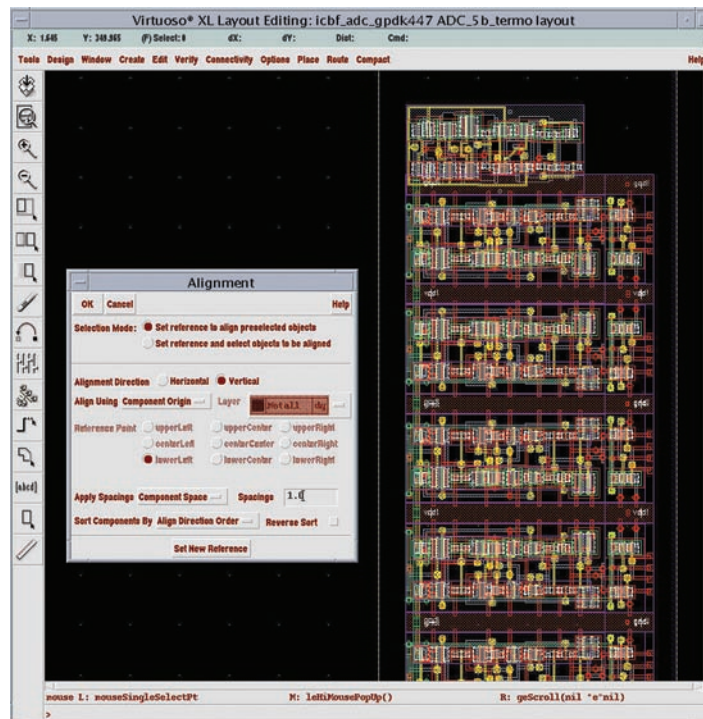

Figure 5: Automated alignment feature provides quick and accurate design-rule-correct placement
- Automated alignment feature (see *Figure 5*)